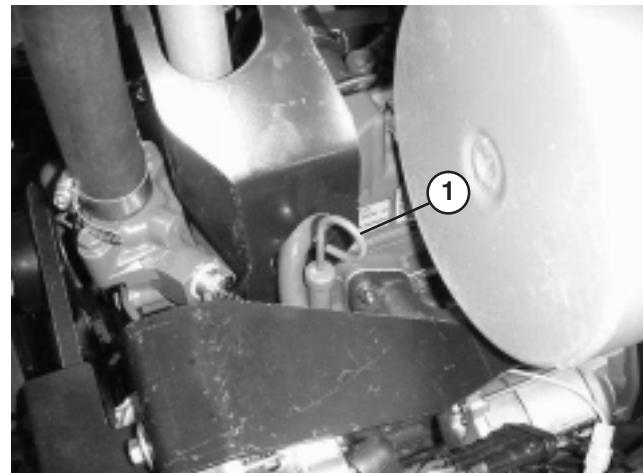

Figure 22
2. Remove dipstick (Fig. 22), wipe clean and reinstall dipstick. Remove dipstick and check oil level. Oil level should be up to FULL mark on dipstick